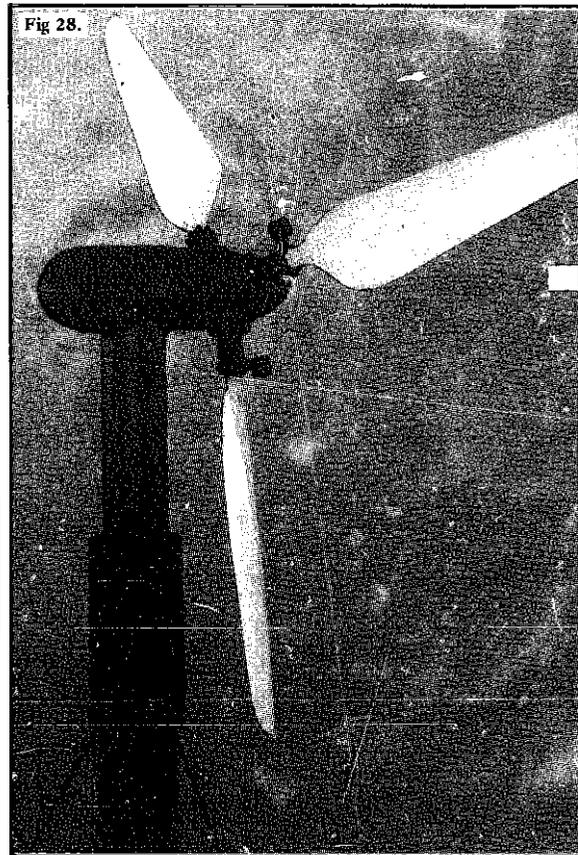

Fig 28.
- b) If the blades are angled to point slightly downwind of the mast or tower, the wind pressure on them makes the machine self-orientating. This principle is used in two of the wind generators designed by Windworks, and on the wind generators and wind pumps produced by Lubing (see Fig 28).